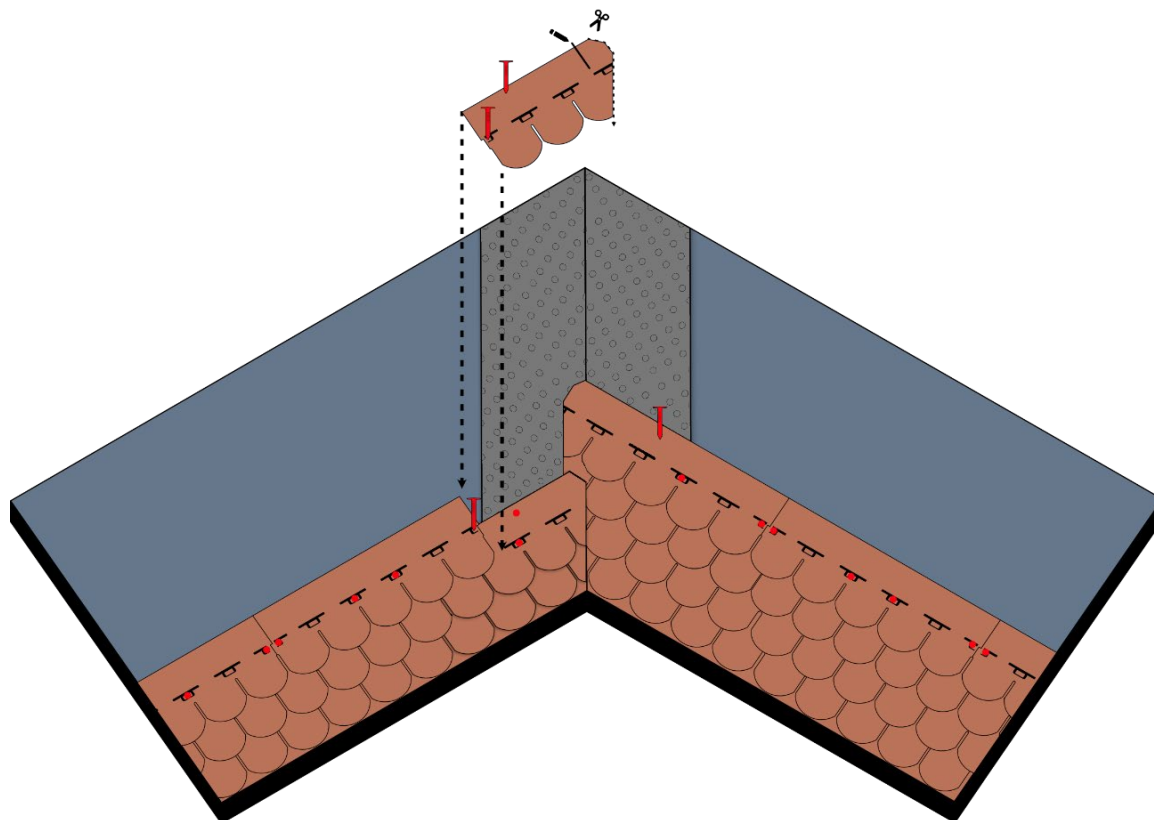

Fig. 14 - Shingles installation at valleys
- Cross-cut the top edge of the shingle to the valley – Fig. 14, so as to convey the descending water along the axis of the valley. Lift the shingles one at a time and fix them by torch to the membrane below. Where you come to the gritty shingle of the first pitch, apply Bitustick to the lower part to fix it – Fig. 14.